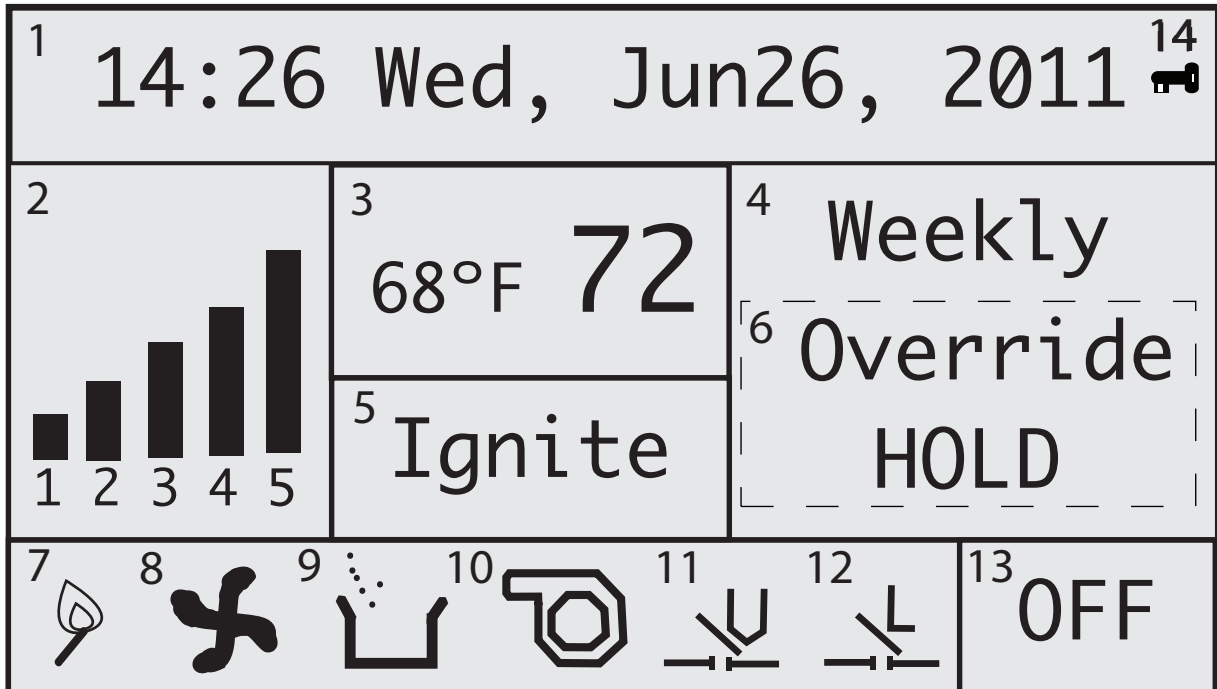

Figure 19: Main Operation Controller Screen Display
When the stove turns on, the ignition indicator and the exhaust blower indicator will appear on the screen (7 and 8, Fig. 19). "Ignite" will also appear in the work stage box (5, Fig. 19) on the screen. After approximately four seconds, the vacuum switch indicator (11, Fig. 19) will appear. Also note that the hopper lid open indicator (limit indicator) (12, Fig. 19) will appear anytime the stove's hopper lid is properly shut and sealed.
The stove exhaust blower will continue to run for three minutes, then the auger indicator (9, Fig. 19) will flash on the screen, indicating that the auger is feeding pellets into the stove. Within three to five minutes of the auger feeding pellets, a fire should ignite. Once a fire is lit, the work stage box on the screen will read "Heating Room".
To increase or decrease the "call to" temperature, use the **SCROLL UP** or **SCROLL DOWN** button (8 and 10, Fig. 17). The current room temperature will be displayed in the temperature display box (3, Fig. 19) on the screen, as will the "call to" temperature.
- With a schedule set, make sure that the main display screen on the controller reads **'WEEKLY'** (for operating in the Weekly Mode) and that the unit is turned on. The schedule will not take effect unless the unit is turned on in the Weekly Mode. (13, Fig. 19).